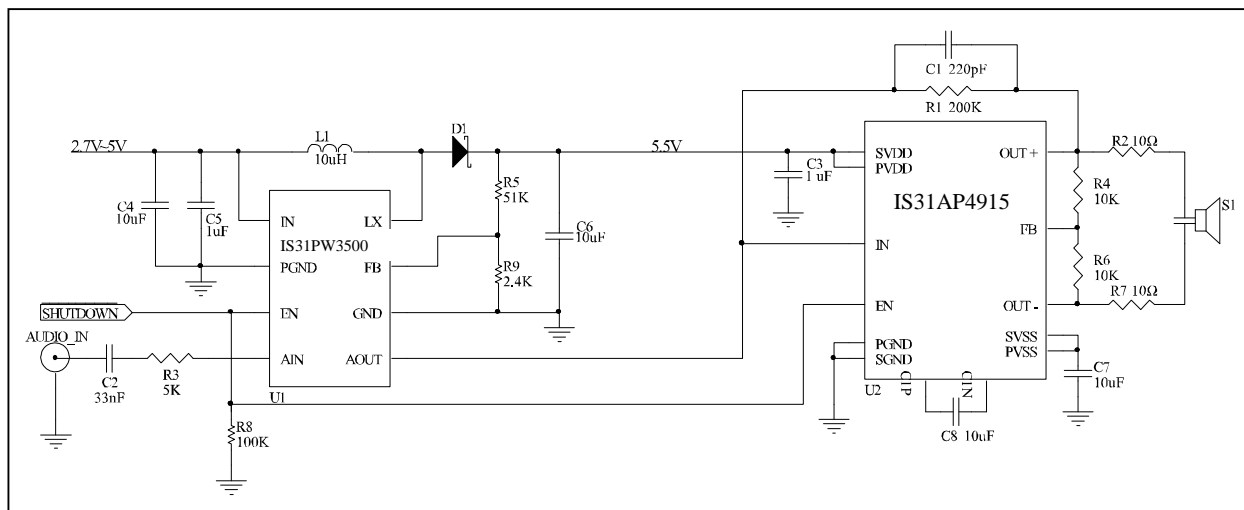

Figure 3 Constant Output Voltage for Class-G Audio Amplifier
Figure 3 is an application of IS31PW3500 for backlight of main panel and flashlight. Setting the divider-resistors (R1 & R2) is to get a constant output voltage that depends on the forward voltage and the numbers of series-LEDs. There are three kinds of mode controlled by the switches - backlight mode /flashlight mode /backlight + flashlight mode. It can turn on backlight or flashlight at one time or both at the same time. Applying different duty cycle of PWM signal above 22kHz to backlight's switch can also control the brightness. The following formula (2), (3) can determine R3.